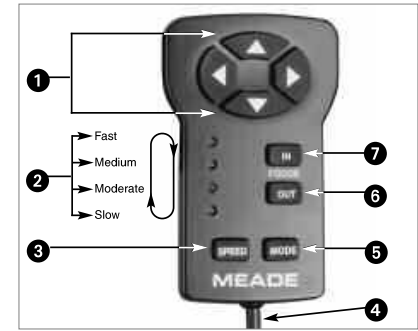

Fig. 49: Electronic Controller. (1) Arrow Keys; (2) Indicator Lights; (3) SPEED Key; (4) Coil Cord; (5) MODE Key; (6) OUT Key; (7) IN Key.
Some LX D75 models (designated with an "EC," for example, AR-5EC) come equipped with an Electronic Controller (EC) handbox, rather than the Autostar Handbox. The Electronic Controller provides you with the means to control the telescope motors from a compact handbox. The Electronic Controller (Fig. 49) has soft-touch keys designed to have a positive feel, even through gloves.
The following numbers refer to Fig. 49 above.
3 SPEED Key: Press **SPEED** to change the speed at which the telescope slews to an object. Each press of the **SPEED** key changes the slew speed to the next slower setting. If the controller is already on the slowest slew speed (light 4), pressing **SPEED** cycles back to the highest speed (light 1). Slew speeds are signified by the indicator lights (2, Fig. 49).
4. Plug in the Electronic Controller coil cord (4, Fig. 49) to the HBX port (24A, Fig. 1) on the Computer Control panel.
8. Use the four Arrow keys (1, Fig. 49) to slew the telescope to the desired object. To change the slew speed, press SPEED.
For objects, like the Moon or a comet, that move at slightly different rates, the Electronic Controller Arrow keys (1, Fig. 49) are sufficient to move the telescope slightly as the object very slowly moves off-center through the eyepiece field.
1. Press and hold MODE (5, Fig. 49) until the Mode function is active (i.e., lights 1 and 2 are on steady; lights 3 and 4 signify whatever tracking mode was last chosen).
2. Press SPEED (3, Fig. 49) until lights 1, 2, and 3 are on steady with light 4 blinking. The telescope is now in the Northern Hemisphere polar mode.
3. Press IN (7, Fig. 49) and light 4 comes on steady. The tracking rate is now 0.5% faster than sidereal. If the object you're tracking is moving faster than the sidereal rate, look through the eyepiece and press IN. Each time you press IN, the tracking rate increases by 0.5%. **Note that when the Mode function is active, the tracking motor stops. To restart the tracking motor, press MODE again.** Experiment with this function to get the right speed: Press IN to set the tracking rate. Then press MODE and look through the eyepiece. Continue pressing IN and MODE until the object remains centered with little or no drifting in the eyepiece.
4. To use a rate slower than sidereal, press OUT (6, Fig. 49) until light 4 blinks again (sidereal rate). Press OUT again and light 4 goes out, signifying a tracking rate 0.5% slower than sidereal. **Note that when the Mode function is active, the tracking motor stops. To restart the tracking motor, press MODE again.** Experiment with this function to get the right speed: Press OUT to set the tracking rate. Then press MODE and look through the eyepiece. Continue pressing OUT and MODE until the object remains centered with little or no drifting in the eyepiece.
6. Use the four Arrow keys (1, Fig. 49) to slew the telescope to the desired object. To change the slew speed, press SPEED.
1. Press and hold MODE (5, Fig. 49) until the Mode function is active (i.e., lights 1 and 2 are on steady; lights 3 and 4 signify the tracking mode last chosen).
2. Press SPEED (3, Fig. 49) until lights 1 and 2 are on steady, light 3 is off, and Light 4 is blinking.
3. Press IN (7, Fig. 49) and light 4 comes on steady. The tracking rate is now 0.5% faster than sidereal. **Note that when the Mode function is active, the tracking motor stops. To restart the tracking motor, press MODE again.** Experiment with this function to get the right speed: Press IN to set the tracking rate. Then press MODE and look through the eyepiece. Continue pressing IN and MODE until the object remains centered with little or no drifting in the eyepiece.
- To use a rate slower than sidereal, press OUT (6, Fig. 49) until light 4 blinks again (sidereal rate). Press OUT key and light 4 goes out, signifying a tracking rate 0.5% slower than sidereal. **Note that when the Mode function is active, the tracking motor stops. To restart the tracking motor, press MODE again.** Experiment with this function to get the right speed: Press OUT to set the tracking rate. Then press MODE and look through the eyepiece. Continue pressing OUT and MODE until the object remains centered with little or no drifting in the eyepiece.
- Use the four Arrow keys (1, Fig. 49) to slew the telescope to the desired object. To change the slow speed, press SPEED.